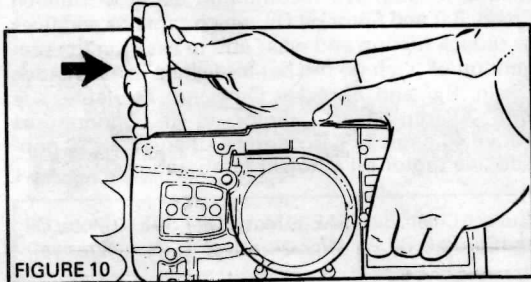

FIGURE 10
9. Make certain the **CHAIN BRAKE** lever is pulled back to the disengaged position. (Figure 10).